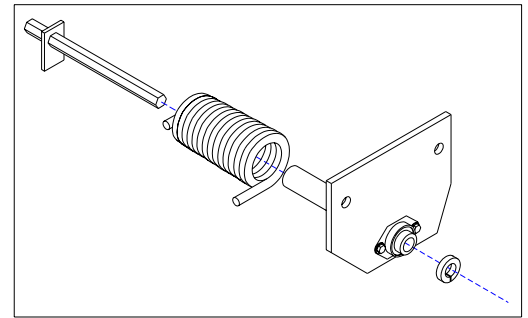

FIGURE 2
- 3) Bolt the pivots to the trailer using the included 1/2” x 2 1/2” hex bolt, flat washer, and lock nut (the head of the bolt must be on the outside, and the washer and nut on the inside). **Note: the pivots are directional** (Figure 2 shows the curb side pivot assembly)